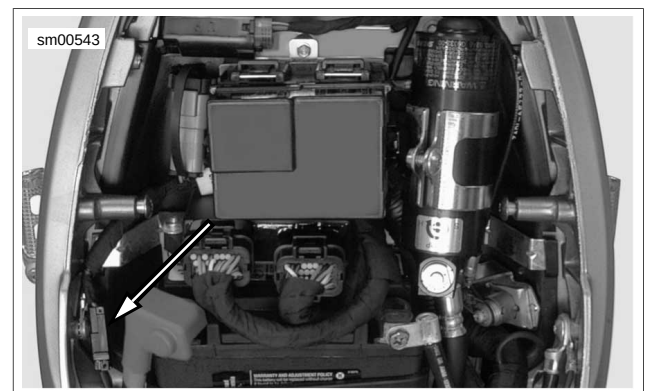

Figure 2-61. Brake Line Switch Connector (XB12S Shown)
3. See Figure 2-61. Disconnect brake light connector from under seat in the front of the battery.